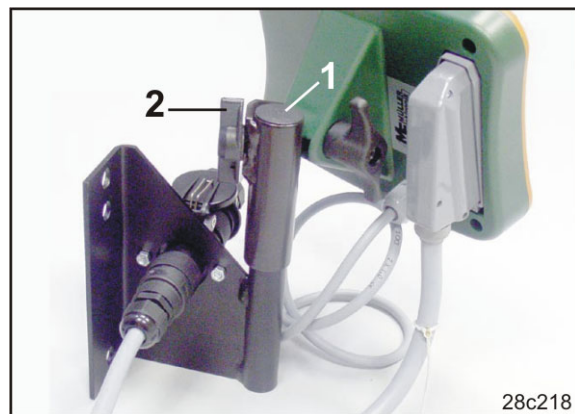

Fig. 12
1. Fit the counterpart (Fig. 12/1) onto the bracket and clamp it in place with the wing screw (Fig. 12/2).